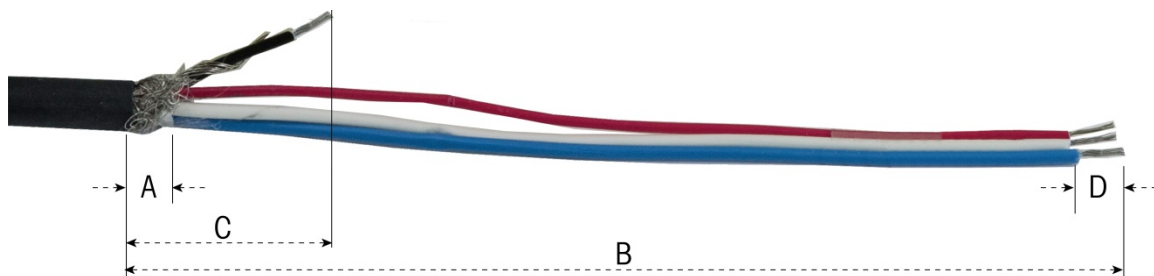

Figure 2-80: PowerMount Cable Preparation – Panel
1. Cut and remove an appropriate length of the insulation jacket, the inner braided shield and insulation as shown in Figure 2-80. The suggested lengths are listed in Table 2-9.
2. Wrap the drain wire around the black wire. Crimp the provided ring terminal onto the end of this assembly as shown in Figure 2-80.